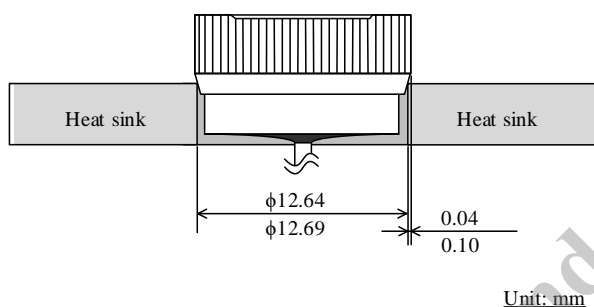

Figure 8 Recommended Hole Size and Interference
- Recommended hole size and interference: See Figure 8